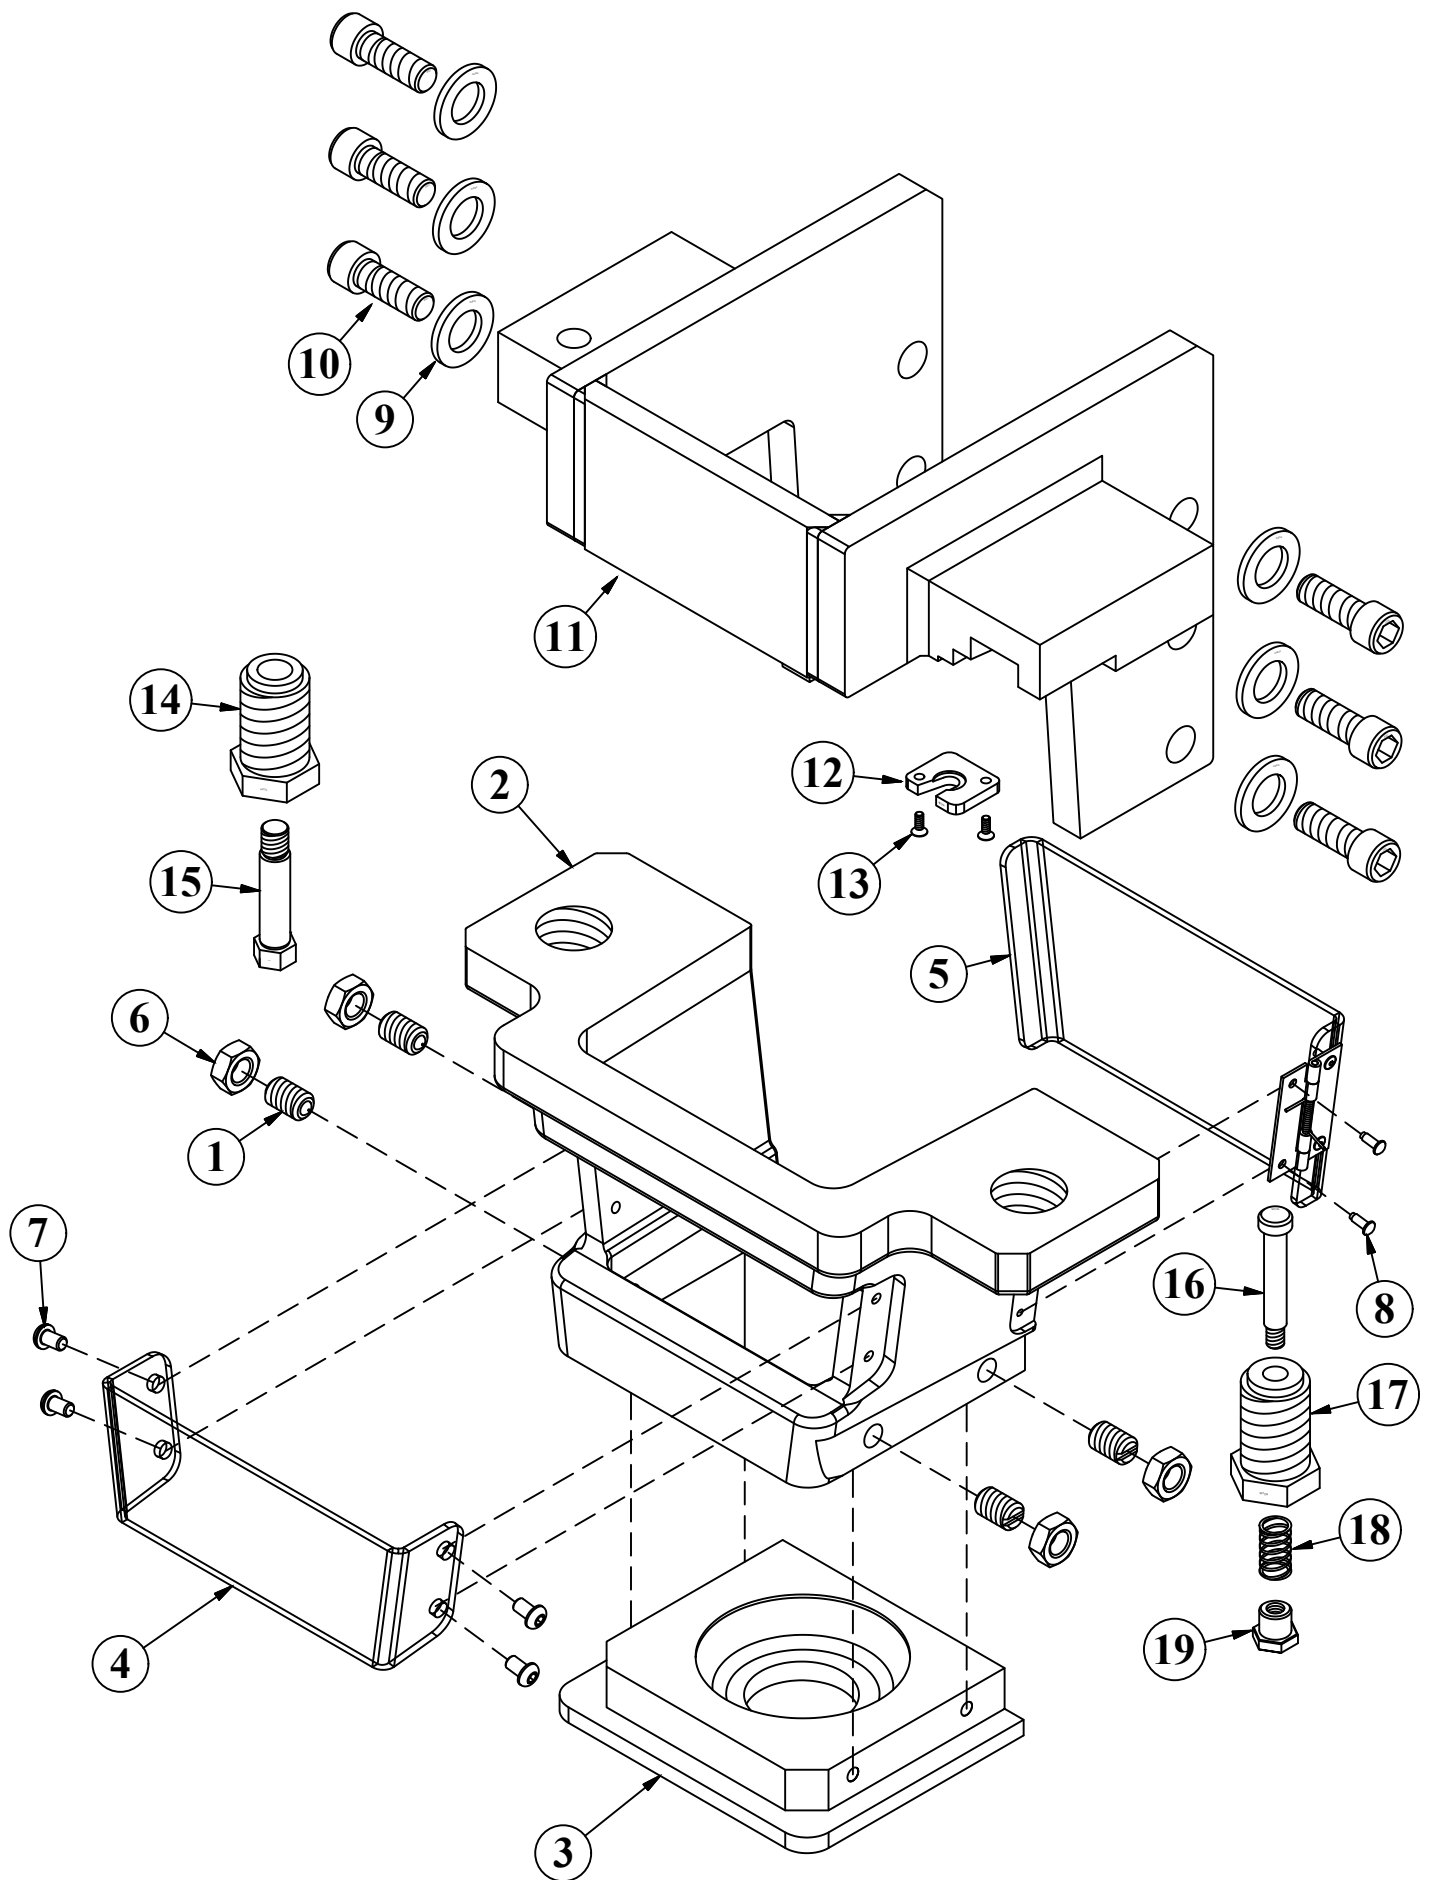

FIGURE 54
- ☑ Loosely position the die holder (14) on the notch bolster.
- ☑ Assemble the stripper arrangement to the machine, as outlined in FIGURE 54 and fully open the stripper (1).
- ☐ Loosen the four hex head screws (15) securing the die holder(1) to the bolster and remove the die holder from the bolster. Clean the bolster.
- ☐ Secure the bottom blades to the die holder as detailed in Figure 54. (Note that there is no blade adjustment on vee notch.)
- ☐ Having secured the dies to the die holder, place the die holder onto the bolster and slide the die holder to the top blade. Finger tighten the four hex head securing screws. Adjust the position of the die holder to achieve a blade clearance of 0.025" (0.6mm). See Figure 54.
- ☐ Fit the support table as in Figure 54 and set the back stops so that the material does not extend beyond the rear of the top blade.